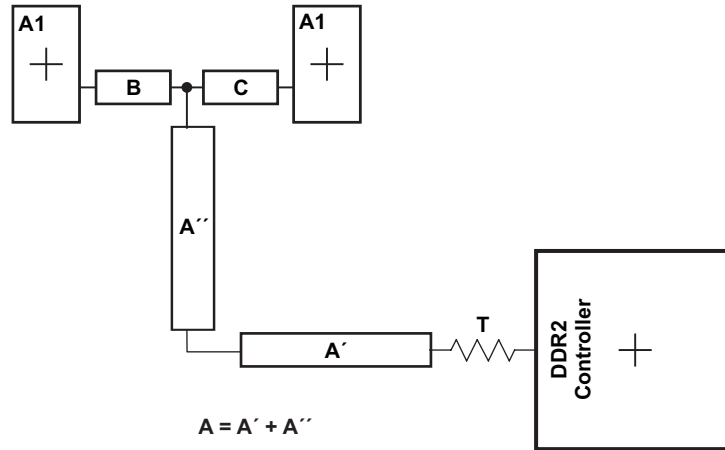

Figure 8-52. CK and ADDR\_CTRL Routing and Topology
Figure 8-52 shows the topology of the routing for the CK and ADDR\_CTRL net classes. The route is a balanced  $T$  as it is intended that the length of segments B and C be equal. In addition, the length of A ( $A'+A''$ ) should be maximized.
- (1) The length of segment  $A = A' + A''$  as shown in Figure 8-52.
- (2) Series terminator, if used, should be located closest to the processor.
- (3) Center-to-center spacing is allowed to fall to minimum ( $w$ ) for up to 500 mils of routed length to accommodate BGA escape and routing congestion.
- (4) CACLM is the longest Manhattan distance of the CK and ADDR\_CTRL net classes.